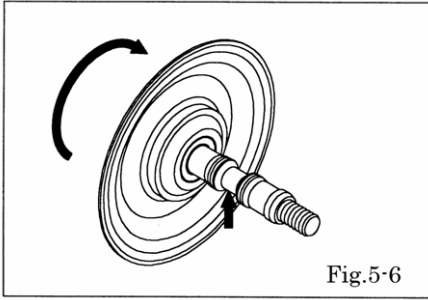

Fig.5-6
- Fix the central part of the center rod by hand or with the vice, and turn it until the diaphragm is removed. [Fig.5-6]